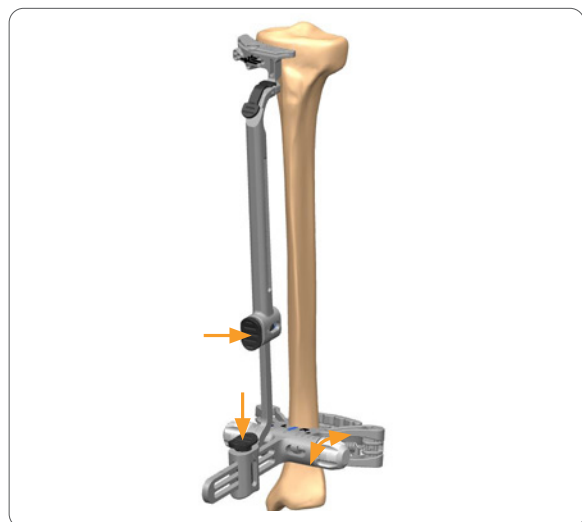

Figure 80
1. Open the arms of the ankle clamp and attach alignment jig to the tibia. Adjust height and slope by depressing the buttons on the Macro Alignment Tube and EM Posterior Slope guide, respectively (**Figure 80**).